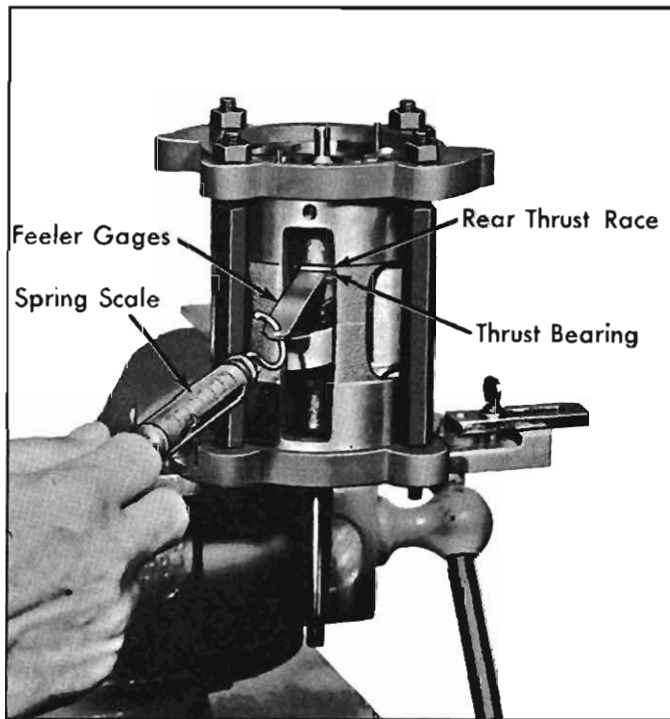

Fig. 11-53—Checking Clearance Between Rear Thrust Bearing and Outer Thrust Race
14. The next gauging operation is to determine the space between the REAR thrust bearing and the upper (outer) rear thrust race. Use a suitable combination of feeler gauge leaves so that 4 to 8 oz. of force is required to pull gauge free (fig. 11-53). Select a numbered thrust race to correspond to this feeler gauge reading and place this race in parts tray in the rear thrust race compartment.